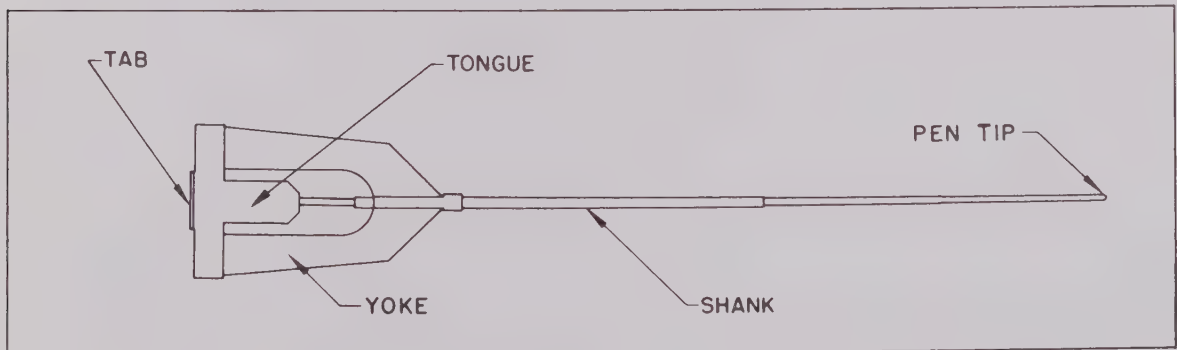

Fig. 6. Diagram of Pen
1. Grasp the SHANK of the PEN between the thumb and forefinger. Fig. 6.